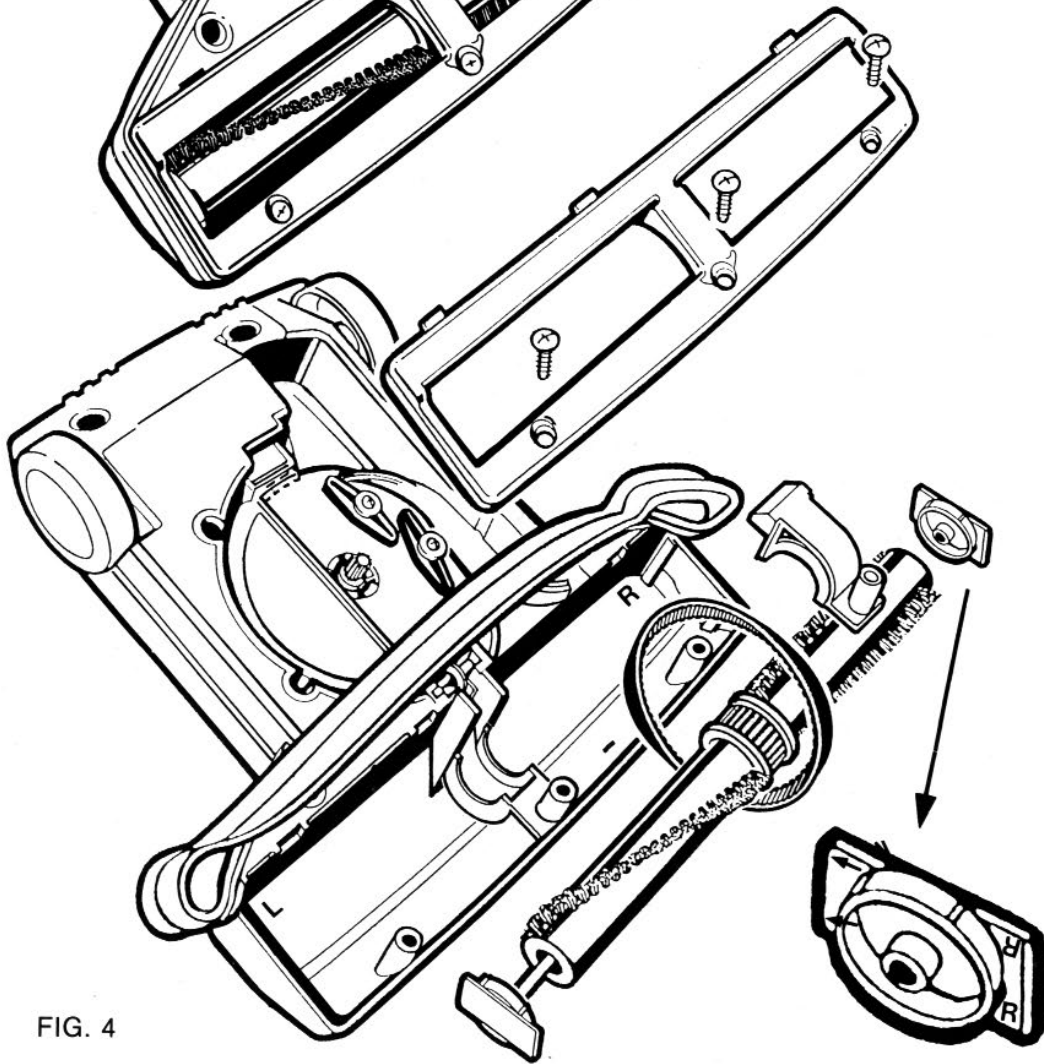

FIG. 4
3. Remove the 3 screws securing the metal baseplate. (see Fig. 4)
15. Place the lower belt shroud into the housing, over top of the brush pulley, as shown in FIG. 4. Ensure that the top of the shroud cylindrical portion is flush with the upper housing screw boss.
Remove brown base plate and belt cover (right side of Powerhead) by removing screw. (See Fig. 4). Next, remove belt from pulley (may help to turn cleaning brush backwards slightly.) (See Fig. 5).